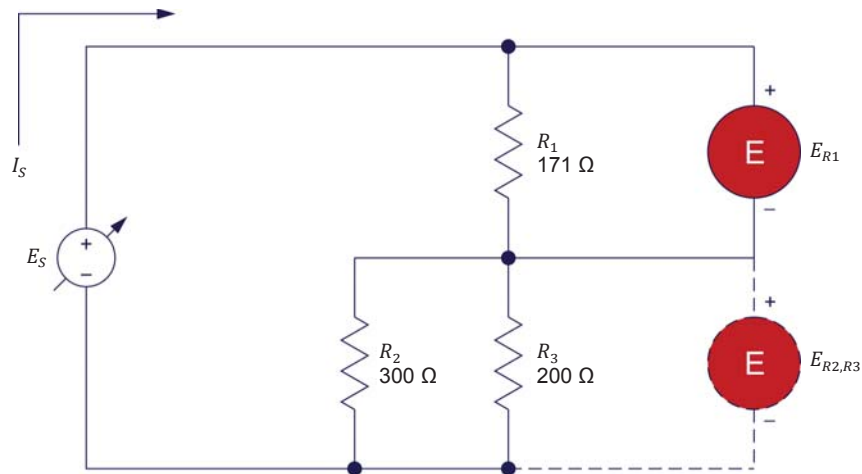

Figure 32. Circuit made of resistors connected in series-parallel.
22. Set up the circuit shown in Figure 32. To obtain the resistor arrangement of Figure 32, make the necessary connections and switch settings on the Resistive Load module.
- 23.** Calculate the equivalent resistance $R_{Eq.}$ of the resistors in Figure 32. Then, calculate the source current I_S based on the equivalent resistance $R_{Eq.}$ and the source voltage E_S of 50 V.
Disconnect the voltmeter from resistor R_1 and connect it across parallel resistors R_2 and R_3 , as Figure 32 shows. Record the voltage $E_{R2,R3}$ indicated by the voltmeter in Table 4.
2. Consider the circuit of Figure 32. If the voltage of the source E_S doubles, what happens to the current flowing through each resistor and to voltages E_{R1} and $E_{R2,R3}$?
3. If the value of resistor R_3 in the circuit of Figure 32 is reduced by half, does the current through resistor R_2 increase or decrease?